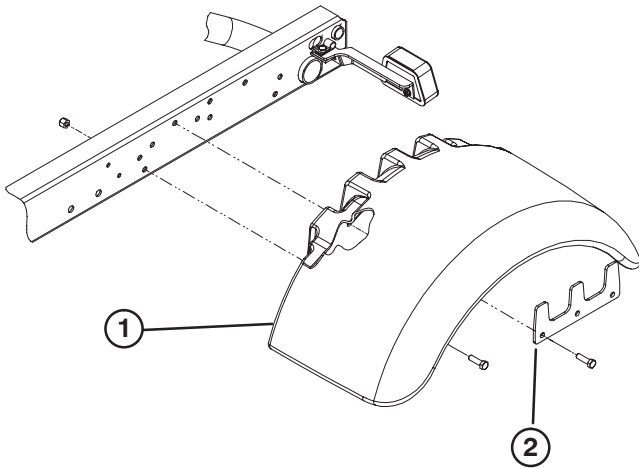

Figure 2
4. Loosely secure a fender to each side of frame with a support plate, (5) 3/8 x 1-1/4 in. capscrews, and a locknut as shown in figure 2.